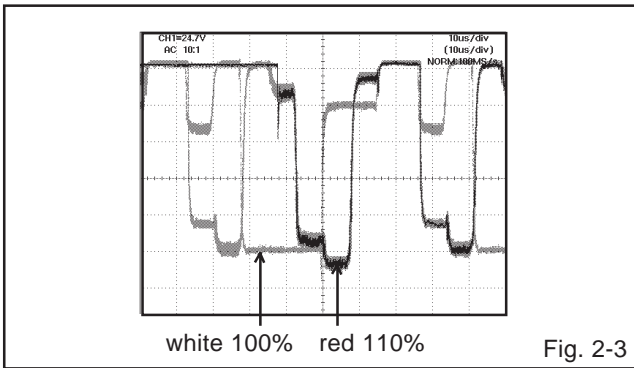

Fig. 2-3
7. Press the VOL. UP/DOWN button on the remote control until the red color level is adjusted to $110 \pm 10\%$ of the white level. **(Refer to Fig. 2-3)**
15. Press the VOL. UP/DOWN button on the remote control until the red color level is adjusted to $110 \pm 10\%$ of the white level. **(Refer to Fig. 2-3)**